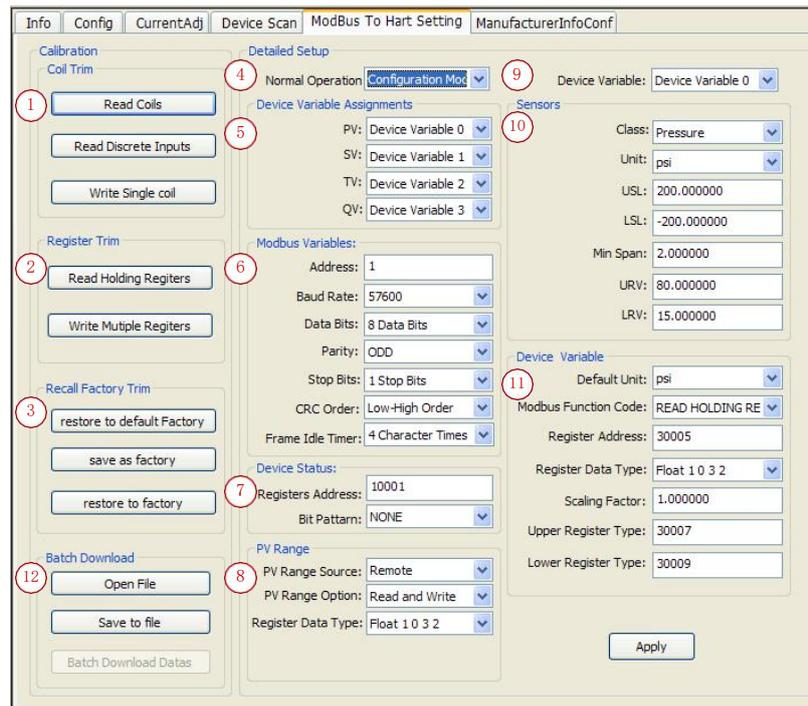

Figure 6 Gateway Configuration
When G0310 MODBUS to HARTgateway is online on HartMPT, mouse left-click online devices, then tabcontrol will show related devices. Click “Modbus to HART Setting”, and for the first time, it will take about 1 min to read device information and then it will show gateway configuration function, as shown on figure 6. .
1. Find “detailed setup”->“normal operation”, as shown on figure 6, part 4. There are two operation modes, one is “configuration mode”, and the other is “normal operation”.
1. Choose drop-down box of PV in “Device Variable Assignments”, as shown in Figure 6 part 5;
1. Find “ModbusVariables”->“Address”, as shown in figure6, part 6, address range is 1~255;
1. Choose “ModbusVariables”->“Baud Rate”, as shown in figure 6, part6, choose baud rate value and click Set and Send button.it supports: 1200, 2400, 4800, 9600, 19200, 35700, 38400, 57600.
1. Choose drop-down box of “ModbusVariables”->“Data Bits”, as shown in figure 6, part6, choose supported data bits, 7 or 8.
1. Choose drop-down box of “ModbusVariables”->“Parity”, as shown in figure 6, part6, mode supported : Odd parity check, even parity check and no check;
1. Choose drop-down box of “ModbusVariables”->“Stop bits”, as shown in figure 6, part6, stop bits supported : 1 stop bits and 2 stop bits.
1. Choose drop-down box of “ModbusVariables”->“CRC order”, as shown in figure 6, part6, stop bits supported : Low-high and High-low.
1. Choose drop-down box of “ModbusVariables”->“4.3.7 Frame Idle Timer”, as shown in figure 6, part6, interval time range is: 4~10.
1. Find “device status”->“register address” input box, as shown in Figure 6, part7, address range is 1~65536.
1. Choose drop-down box of “device status”->“Bit Pattern”, as shown in Figure 6, part7. Bit range is 0~16. 0 means no device state feedback.
1. Choose drop-down box of “PV range”->“PV range source”, as shown in figure 6, part8, including local and long-distance.
1. Choose drop-down box of “PV range”->“PV range option”, as shown in figure 6, part8, including read only and read-write.
1. Choose drop-down box of “PV range”->“Register Data Type”, as shown in figure 6, part8, including read only and read-write.
User can set related parameters of device variables, including sensor and corresponding device variables parameter. In default there are 6, namely “device variables: 0”~“device variables: 5”. It is device variables: 0 in default under system initialization, as shown in figure 6, part 9. When device variables change in choice box, system will refresh corresponding “sensor” and “device variable” parameter. After the modification, system will reminder to save data or not if user switch to other device variables without saving. Click “yes” to save it and click “no” means the contrary.
1. Choose drop-down box of “Sensor”, as shown in figure 6, part 10.
1. Choose drop-down box of “Device Variable”, as shown in figure 6, part 11.